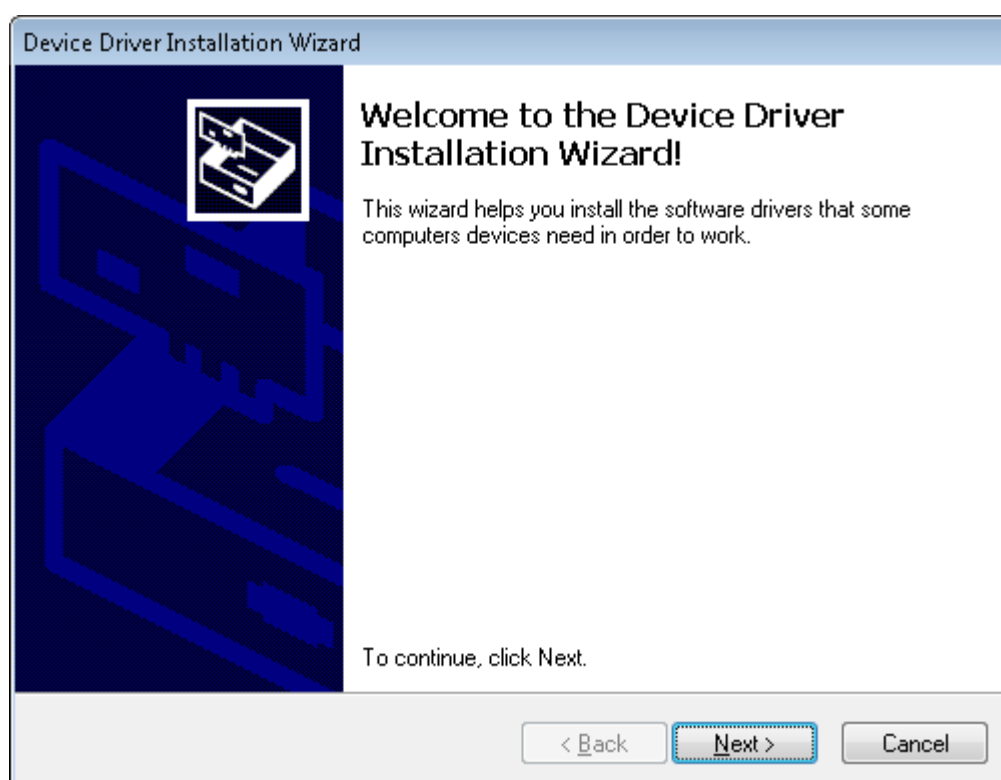

Figure 14. Driver Installation Wizard
15. A screen as shown in Figure 14 appears, click **Next** to proceed.